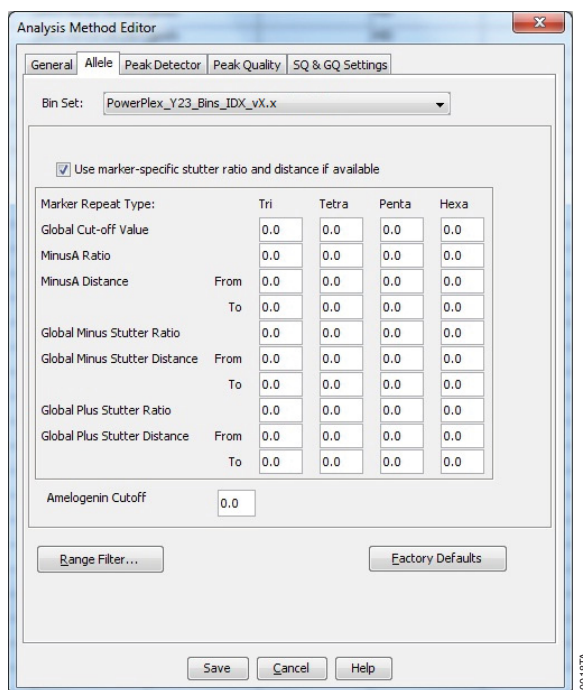

Figure 13. The GeneMapper® ID-X Software, Version 1.2, Allele tab.
6. Select the Allele tab (Figure 13).
8. Ensure that the “Use marker-specific stutter ratio and distance if available” box is checked. Doing this will assign locus-specific stutter filters and distances from the imported stutter file. We recommend the settings shown in Figure 13 for proper filtering of stutter peaks when using the PowerPlex® Y23 System.